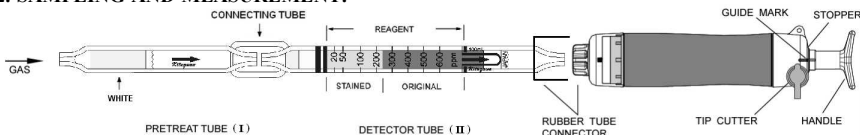

Fig.1
- ① Break both ends of the detector tube (II) and pretreat tube (I), and connect each end of the detector tube (II) and pretreat tube (I) with connecting tube as shown in Fig. 1.
- ② Insert the detector tube (II) into the aspirating pump securely as shown in Fig.1. (Arrow mark shall point to the pump.)
- ③ Align the guide marks on the shaft and stopper of the aspirating pump.
- ④ Pull the pump handle at a full stroke until it locks and wait for 1.5 minutes or until the completion of sampling is confirmed with the flow indicator of the pump. (See descriptions about the flow indicator in the instruction manual of the pump.)
- ⑤ On completion of sampling, read the scale at the maximum point of the stained layer.
- ⑥ When the concentration is over the scale range, a 1/2 pump stroke can be used to determine concentrations of 40 to 1200 ppm.